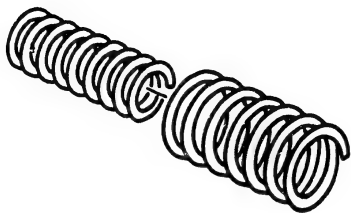

Fig. 150 C.S.D. springs
3. Check that the cold start device springs are not rusted, scratched, bent or unevenly worn. Replace the springs if defective. (Fig. 150)